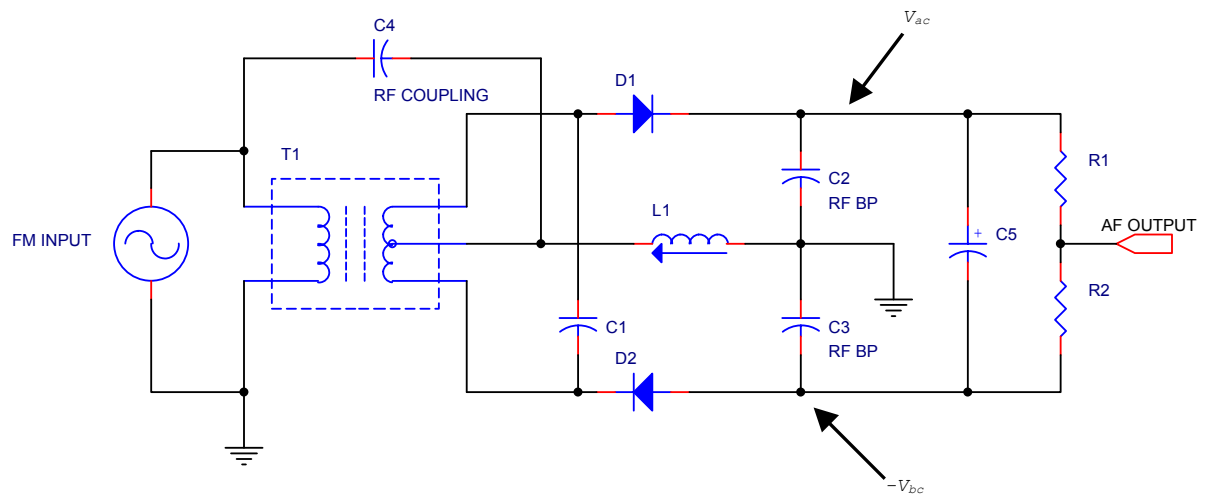
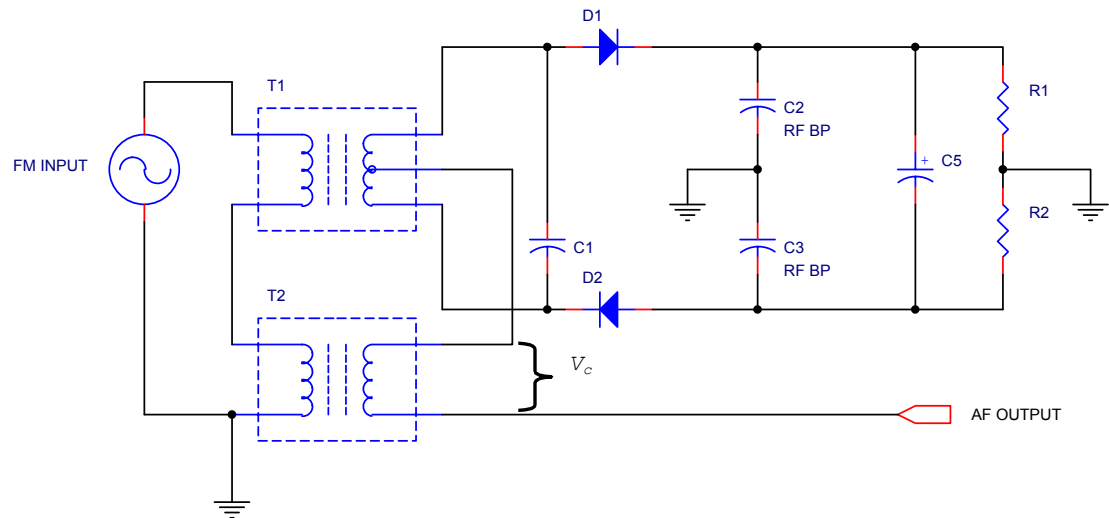

Figure 9-6: A Ratio Detector Circuit
Figure 9-7: A Very Common Form of the Ratio Detector
A modification to the Foster-Seeley circuit results in the *ratio detector* circuit of Figure 9-6. One thing most people notice immediately about this circuit is that "one of the diodes is in backwards!"
Figure 9-7 shows a very common form of the ratio detector that uses two adjustable transformers. The operation is identical to Figure 9-6, except that the secondary of T_2 is used to provide the reference voltage V_c . Usually T_1 and T_2 are a matched set of transformers designed especially for ratio detector duty, and may even be contained in one metal can (with the two screw adjustments visible).
- 9-15 What is the purpose of capacitor C_5 in Figure 9-6?